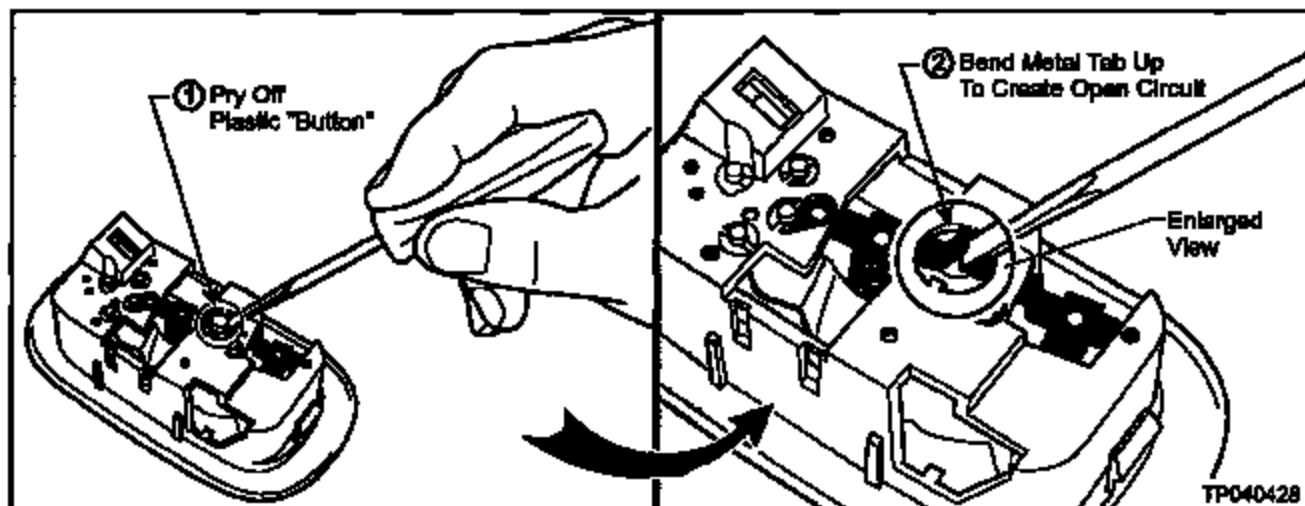

Figure G2
3. Use a small screwdriver to separate/open the circuit (on the Lamp) at the location shown in Figure G2.
- First, pry off the Plastic Button (see Figure G2).
- Then, bend the Metal Tab UP to create an open circuit (see Figure G2).